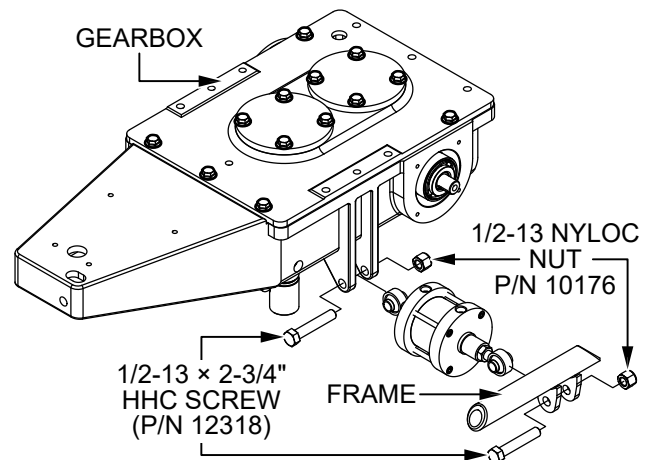

**Figure 14. Install Hydraulic Fittings**
- Apply Loctite® Purple 545™ thread sealant (P/N 32593) to the threads on the straight fittings (P/N 32350) or the threads on the 90-degree fittings (P/N 32619) as determined in Step #9. See Figure 14.
- Install the two hydraulic fittings into the open ports on the hydraulic cylinder (P/N 12056) and tighten securely. See Figure 14.